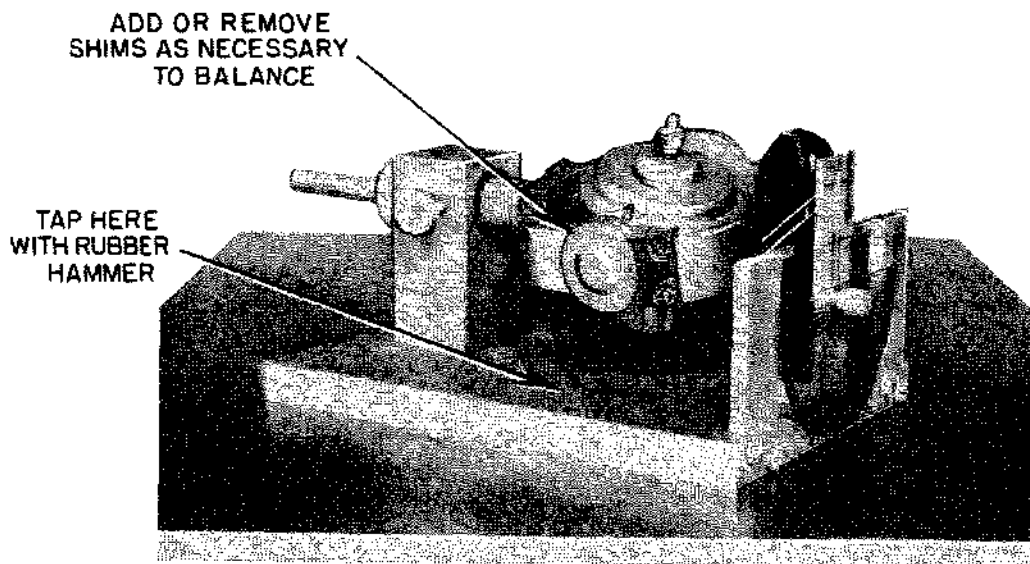

FIGURE 42 CENTRALIZING THE GYRO HOUSING IN THE GIMBAL RING
9. With the pointer attached, the gimbal ring should swing equal amounts each side of the vertical. Tap on the base of the fixture with a rubber hammer and if the gimbal ring swings down on one side it is evident the gyro housing and pendulum assembly is not centered in the gimbal ring. See Fig. 42.